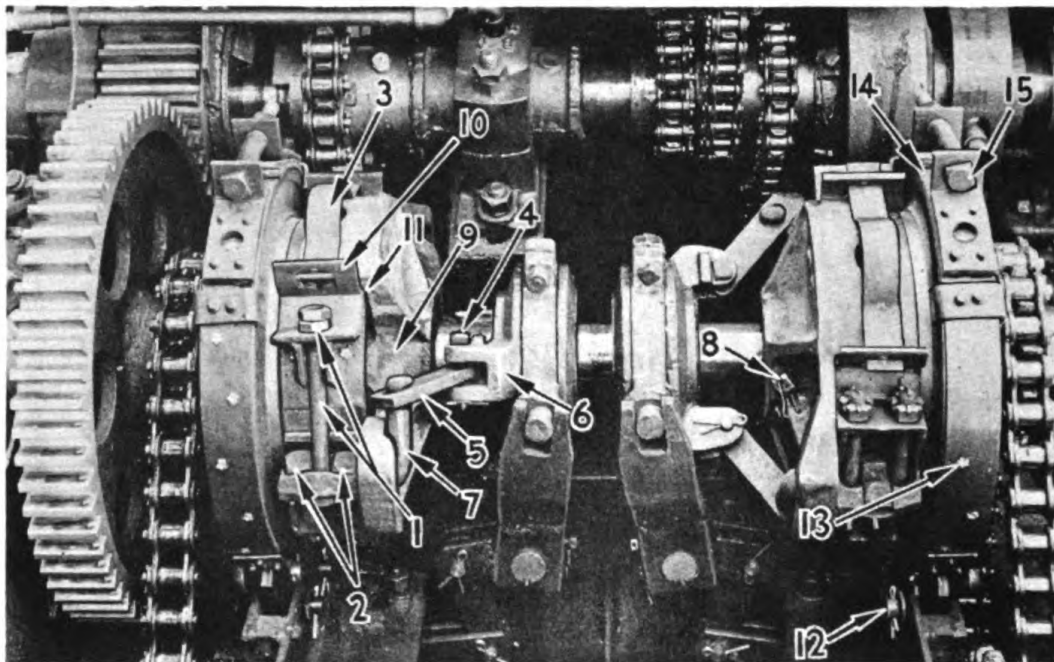

Figure 109. Crawler control clutches.
- (a) Remove take-up bolts (15) Figure 109, in brake bands.
While shaft is lifted the shifter yokes are free of the shifter forks, removing the shifter yoke bolts allows the two halves to come free of the shifter collar (6) Figure 109.
- (a) Remove both adjusting bolts (1) Figure 109.
- (b) Remove all four bolts (2). The slotted nuts on these bolts are held in place by cotter pins.
- (c) Remove both spring bands (3).
- (d) Remove the toggle pin (4) that secures the toggle link (5) to shifter collar (6).
- (e) Remove the main clutch lever (7).
- (f) Loosen both set screws (8) in the clutch carrier (9) and slide the clutch carrier back on shaft away from the clutch drum and remove bands. When sliding the carrier back be sure that the clutch bands remain in position on the clutch drum as this will simplify their removal.
(l) Secure toggle links (5) Figure 109, to shifter collar (6) with toggle pins (4).
(a) Remove the adjusting bolt (15) Figure 109, from brake bands.
(a) Release crawler clutches and take out adjusting bolts (15) Figure 109, on the brake bands so they may be laid back out of the way.
(d) To strip the shaft completely, remove gear (7) which is keyed and set screwed to the shaft, then collars (12) should be removed. Clutch hubs with sprocket (9) will now slide off the shaft. Clutch carriers (9) Figure 109, are keyed and set screwed to the shaft and will slide off as a unit with clutch bands and shifter collars.
To tighten clutch, loosen half nut on adjusting bolt and turn inside nut down $\frac{1}{4}$ to $\frac{1}{2}$ turn, (1) Figure 109. Then turn clutch half way around and repeat procedure on opposite take-up bolt. BE SURE TO TAKE UP AN EQUAL AMOUNT ON BOTH BOLTS. If this is not done, the ends of both clutch bands nearest to the bolt taken up the most will drag resulting in damage to the clutch. To determine if both bolts have been taken up an even amount proceed as follows:
(a) Turn clutch over until the clutch band half, having no shims between the spring clip and clutch carrier at (11) Figure 109, is accessible.
To tighten either brake, loosen the half nut on the adjusting bolt, (15) fig. 109 and turn the inside nut down $\frac{1}{2}$ to $\frac{3}{4}$ turn. If this should not be sufficient, continue to turn the nut $\frac{1}{2}$ turn until proper braking is obtained. Never tighten the brakes more than is necessary to brake each crawler when turning on level ground.